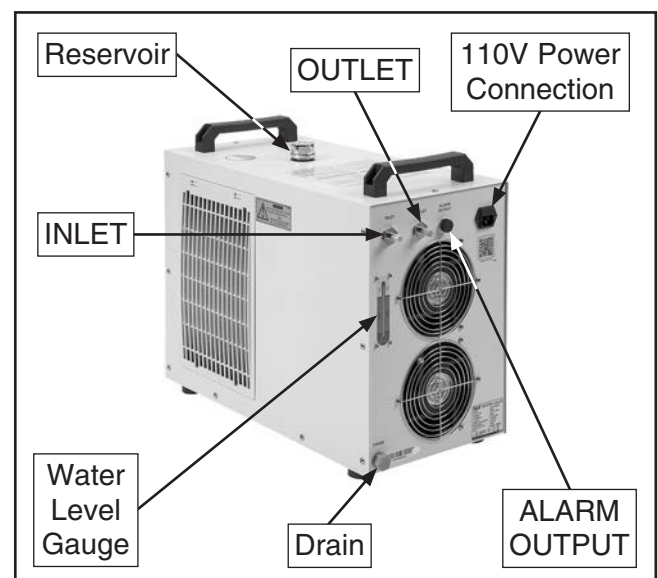

Figure 17. Water chiller connections.
2. Install water tubing onto water chiller INLET and OUTLET fittings, then connect signal cord to ALARM OUTPUT receptacle (see **Figure 17**).